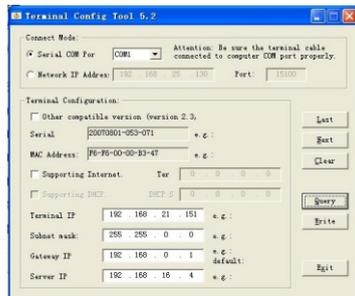
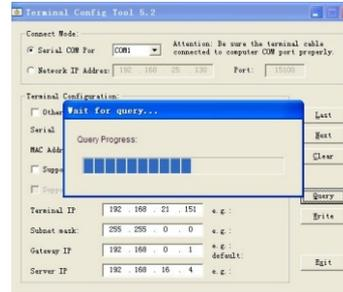

Figure 1
Figure 2
- Connect the "TERMINAL" on this terminal and "TERMINAL" on the computer with a serial cable or convert into a USB port, click "start" button and then choose the "All programs", find "LTRONIK intelligent network broadcasting" and select "terminal configuration program 2.36", run the software program, open Configuration dialog box to open the terminal in Figure 1, in the way for the serial port connection, click "Search" dialog box appears as shown in Figure 2.